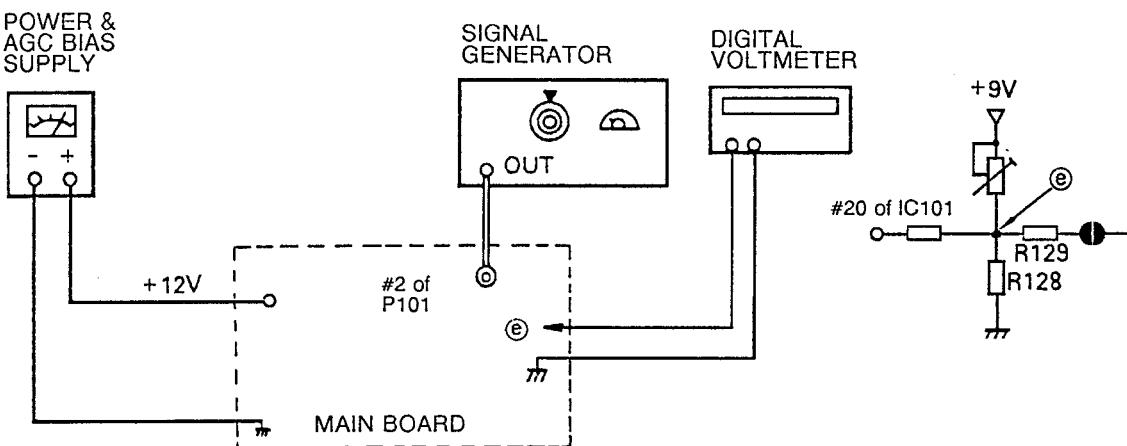

Figure 6. AFC Alignment
GENERAL Refer to figure 6 for test equipment connection.
2. Supply +12 volts to the Main Board. (See figure 6.)
DVM Connect to the resistor R125 (◎ in figure 6) and ground.